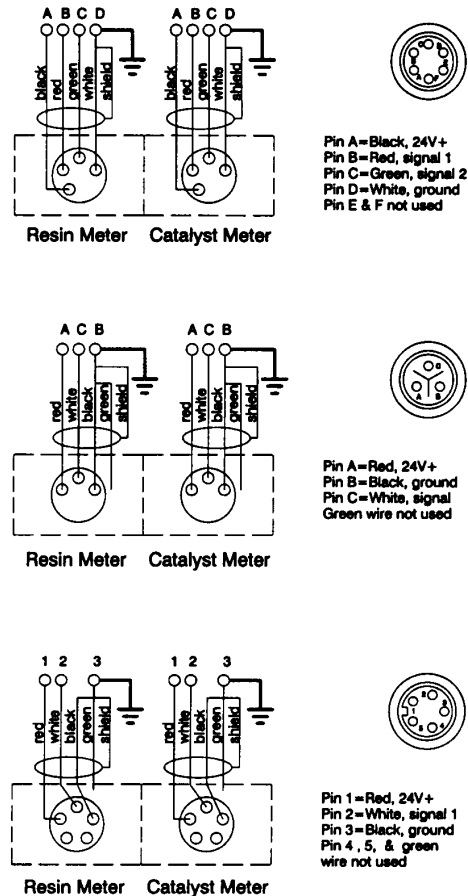

Fig 4
Meter cables must be connected as shown in Fig 4. Failure to properly connect the grounded conductor and shield may cause incorrect signals.
- 5 Flow Meter Cable; connect as shown in Fig. 4
- 7 Manifold Mounting Surface Ground Wire; must be connected to same true earth ground (8) as controller.
- 9 Controller Enclosure Grounding Wire; must be connected to same true earth ground (8) as manifold mounting surface is connected to.
- 11 Controller Grounding Wire (green-yellow wire); connect to controller enclosure's grounding lug (8)